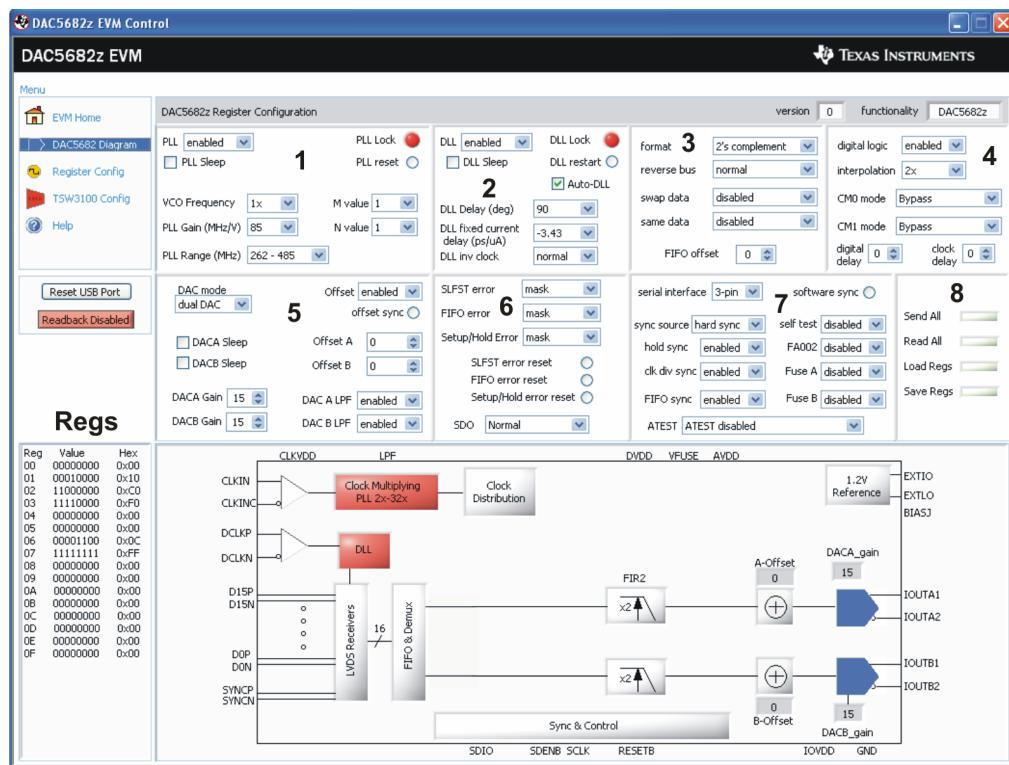

Figure 10. DAC Block Diagram and Register Configuration Settings
- **DAC5682z Register Table**—displays DAC register settings in binary and hexadecimal formats (Figure 10 - Regs).
DAC5682z Register Table Area (See Figure 10, Figure 11, and Figure 12)